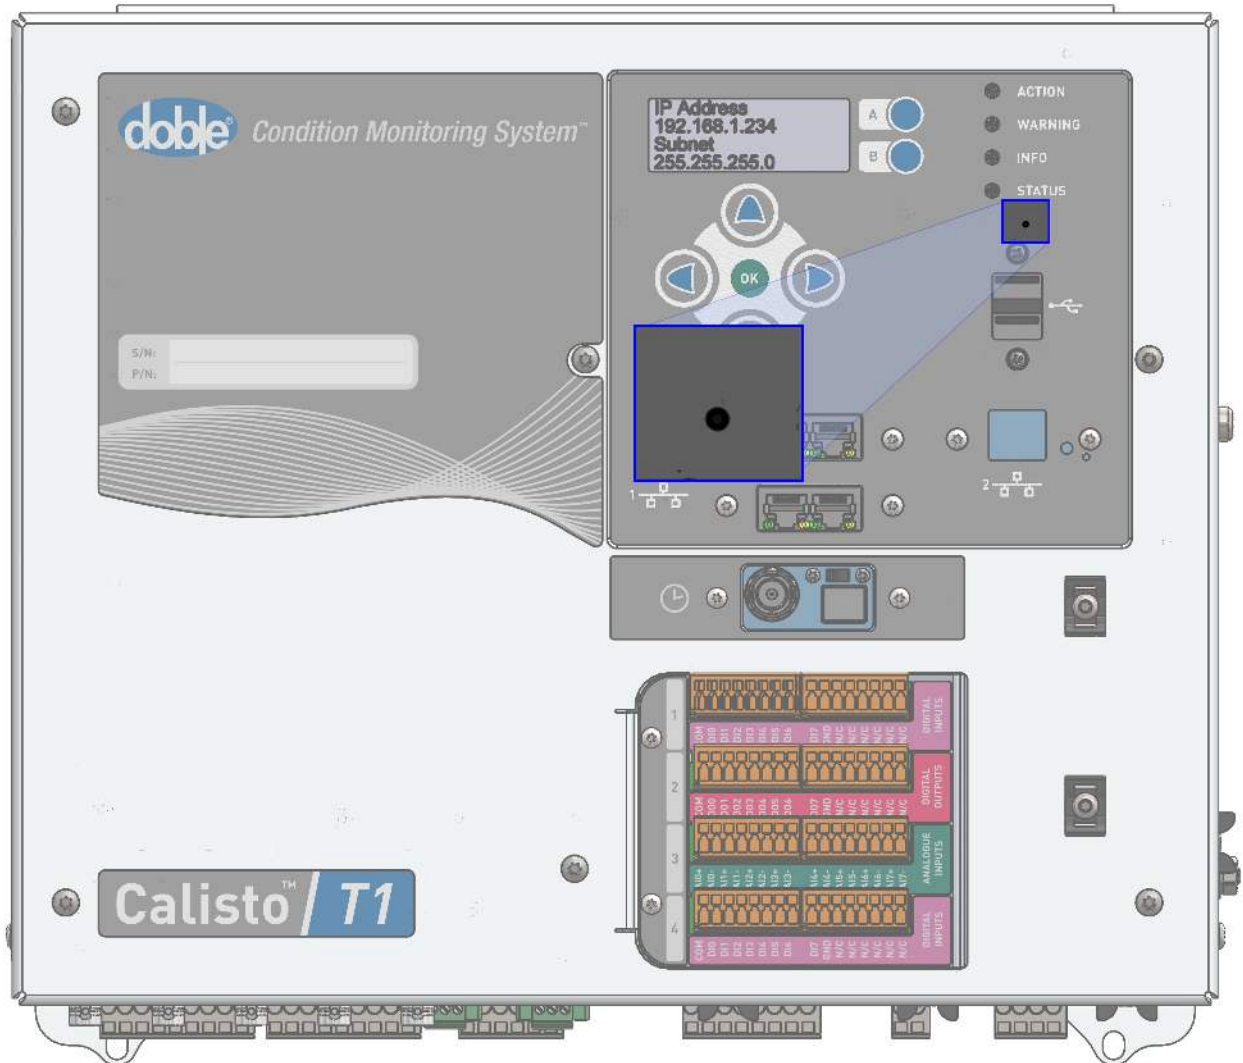

Figure 24 - Reset Pinhole
Just below the LED lights, you find the pinhole, Figure 24, for resetting the unit. This procedure only resets the IP address; the configuration and database are preserved. Perform the following steps to reset the IP address.
1. Insert and hold a paperclip or similar in the pinhole, Figure 24. The LEDs will go out then light up in sequence bottom to top.